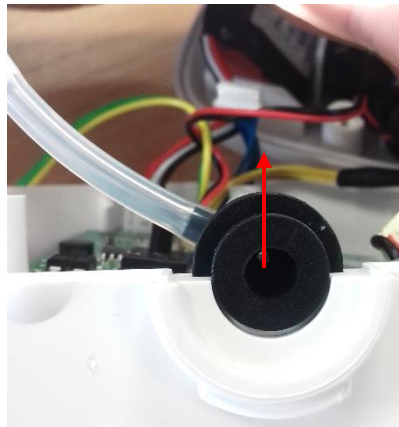

Fig: 8
3. Remove the docking port from the power unit casing. (Fig: 8)